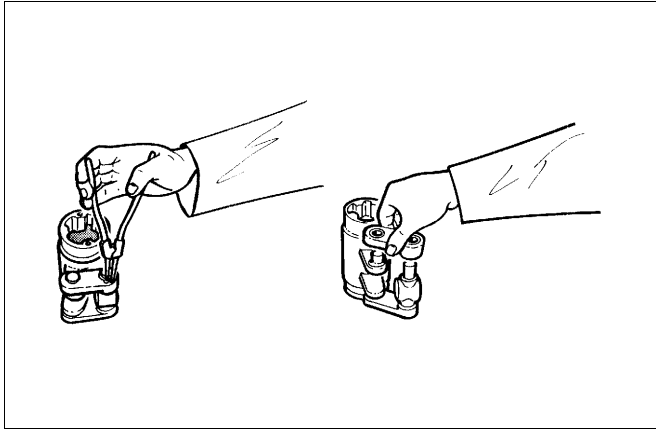

Fig. 16 Dismantling the linkage
- ❑ Remove lock rings (36) and support rings (37). See Fig. 16.
- ❑ Remove connection arms (4), ring (4A) and check the condition of the bearings (20, 21).
- ❑ Remove lever arm bearings (23), O-rings (17) and the grounding ring (3A).
- ❑ Install the grounding ring (3A), the lever bearings (23) and the O-rings (17). The grounding rings (3A and 4A) are needed to meet the ATEX requirements.
- ❑ Assemble the linkage and install in the housing. See Figure 16 for the correct position. Note the ring (4A).
- ❑ Apply sealant, e.g. Loctite 225, to the bearing unit screw (29) thread and tighten the screw as in Table 1.
- ❑ Remove lever arm bearings (23) and O-rings (17) and the grounding ring (3A).
- ❑ Apply sealant, e.g. Loctite 225, to bearing unit screw (29) thread and tighten the screw as in Table 1.
- ❑ Install new cylinder base O-ring (19). Install the cylinder.